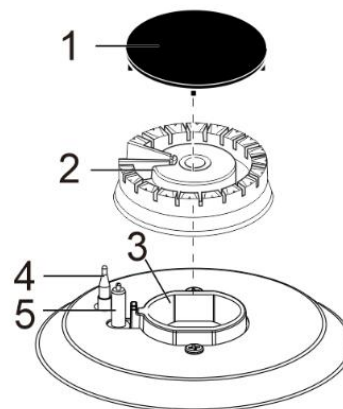

Figure 2
- As shown in Figure 2, place the burner onto the burner base one by one and stuck, rotate left and right to check if the burners are in place, the burner is placed correctly when it cannot be rotated. Finally center placed the burner cap on the burner.